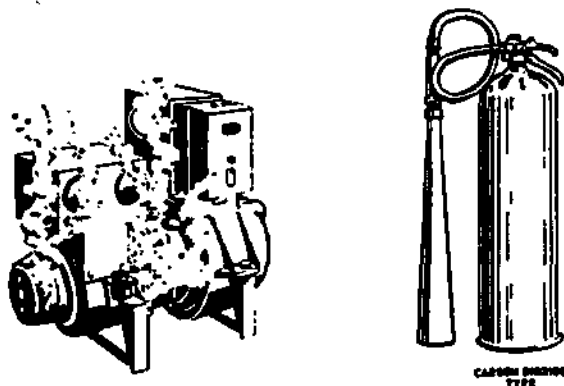

Figure 1-22. Electrical Fire and Recommended Extinguisher
**CLASS C.** Electrical fires are typical of this class. Water must not be used. The extinguishing agent must be a nonconductor of electricity. The smothering effect is normally used to extinguish this type of fire. See figure 1-22.